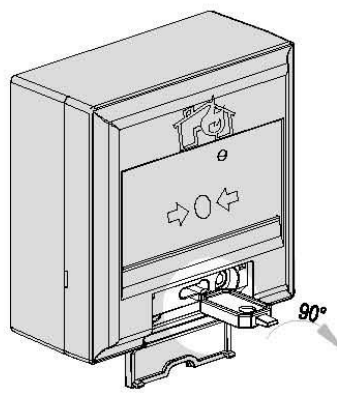
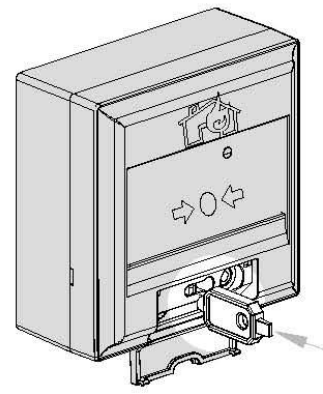

Figure 10
Figure 11
3. Rotate the key clockwise position up to 90-degree angle (Figure 10), then forcibly push the key inside until the glass plate completely return to its normal position. (Figure 11)